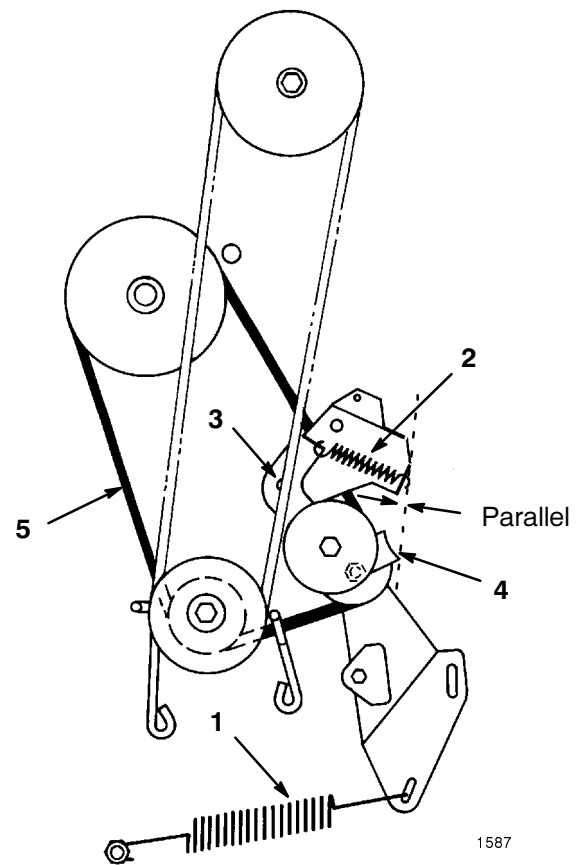

Figure 31
7. Unhook the large traction spring from the mounting screw (Fig. 31). Use caution when removing the spring as it is heavily tensioned.
8. Unhook the idler spring from the idler bracket (Fig. 31).
9. Remove the locknut and washer securing the idler bracket to the frame and remove the bracket (Fig. 31).
10. Loosen the locknut on the pulley until the belt guide can be removed (Fig. 31). Remove the belt from all of the pulleys.
Note: When installing the belt guide to the idler pulley, make sure the edge of the belt guide is parallel to the frame as shown in Figure 31.